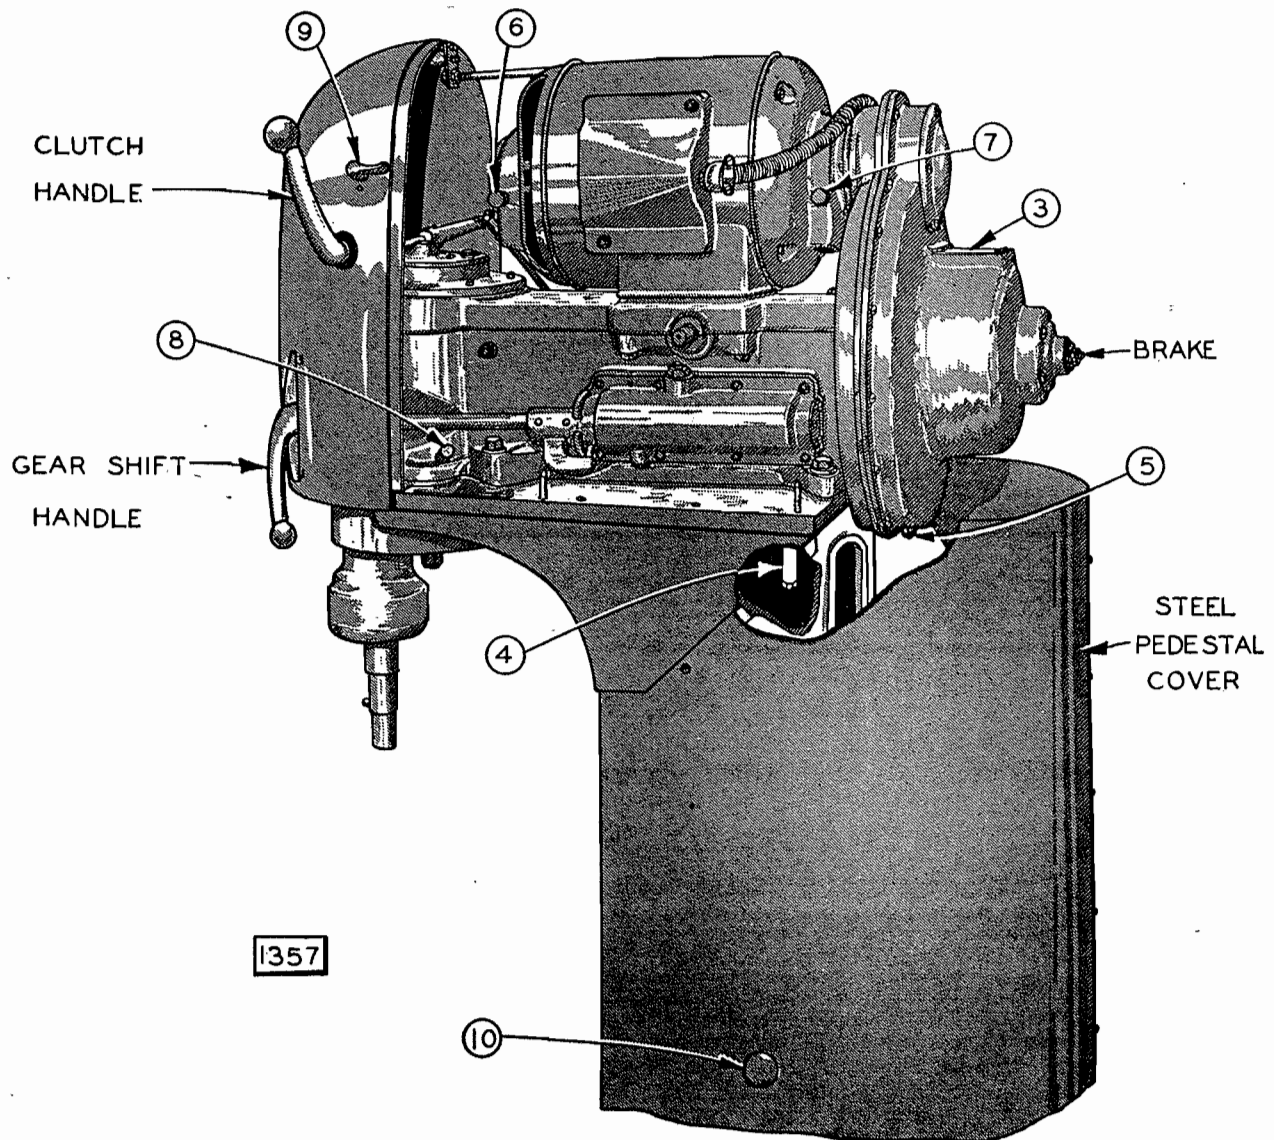

Fig. 2 — The Machine with Top Housing Removed.
A - When the machine is prepared for shipment, the oil is drained from the transmission case and the main drive gear case, and they must be refilled before the machine is operated. Do this before putting on the top housing. See Fig. 2. Take off the cover 3 and pour in about 7 pints of oil from the can labelled "OIL FOR GEAR CASE" that is supplied for this purpose. After putting in this much oil, start the motor and let it run for ten minutes. Oil will thus be pumped out of the main drive gear case and be distributed through the transmission gear case. Then if, with the motor running and the gears in neutral position, the oil level does not come up to the line in the sight gage (1), add some more oil. If the machine has an Attachment Hub, the oil level must
To drain the transmission case, remove plug (4) Fig. 2. To drain the main drive gear case, take out plug (5).